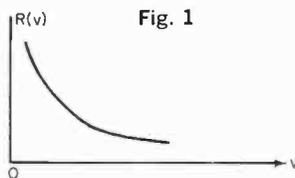

Fig. 1
**A. Definition.** A linear element is one that, if its input is increased by a given amount, responds with a proportional increase. For example, if the voltage across a linear resistor is doubled, the current flowing in the resistor is also doubled. A *nonlinear* resistor is shown in Fig. 1. Note that the value of the resistor,  $R(v)$ , depends on the voltage across it. (In this article we are concerned only with linear elements.)